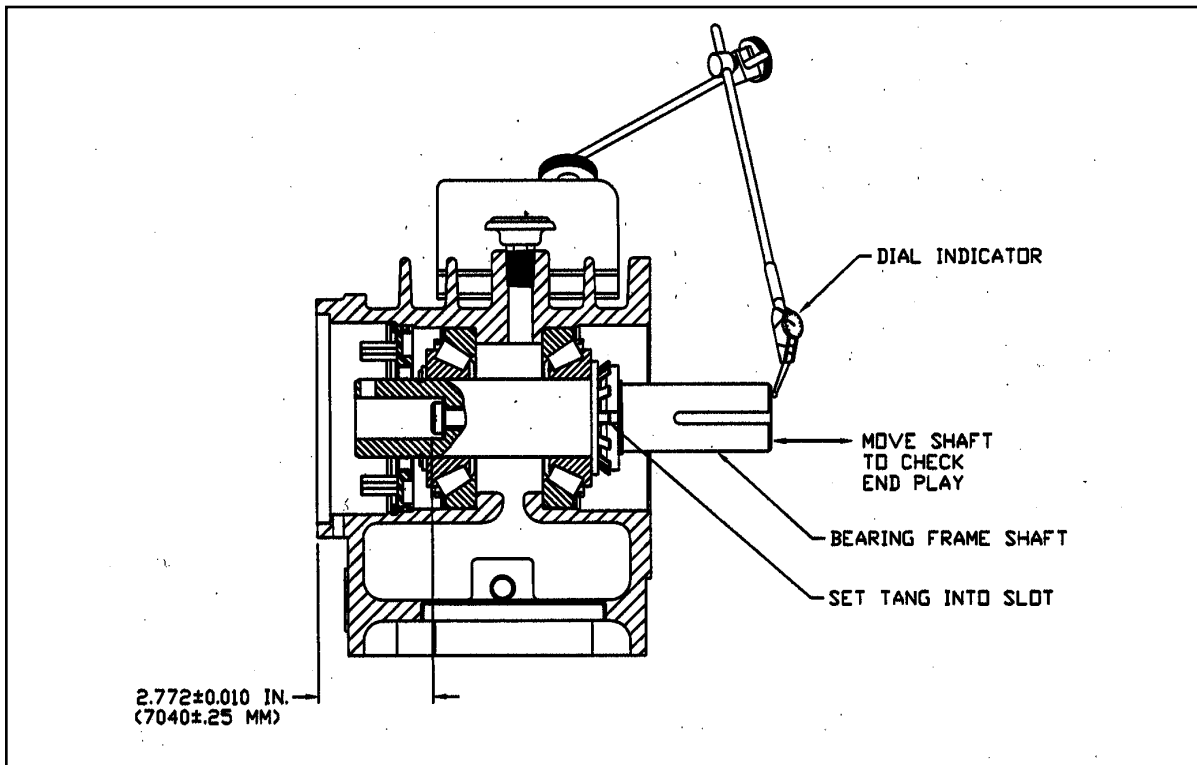

Figure 6.9
The correct set-up may be checked by placing the shaft into the bearing frame and measuring 2.772 ± 0.010 -inch (7.04 ± 0.25 mm) recess. Refer to Figure 6.9 (Setting Bearing Frame Shaft End Play).
6. Check the end play of the shaft [Section 6.5.2 (Bearing Frame Overhaul)] and Figure 6.9 (Setting Bearing Frame Shaft End Play).
3. Zero out and set the dial indicator as shown in Figure 6.9 (Setting Bearing Frame Shaft End Play).